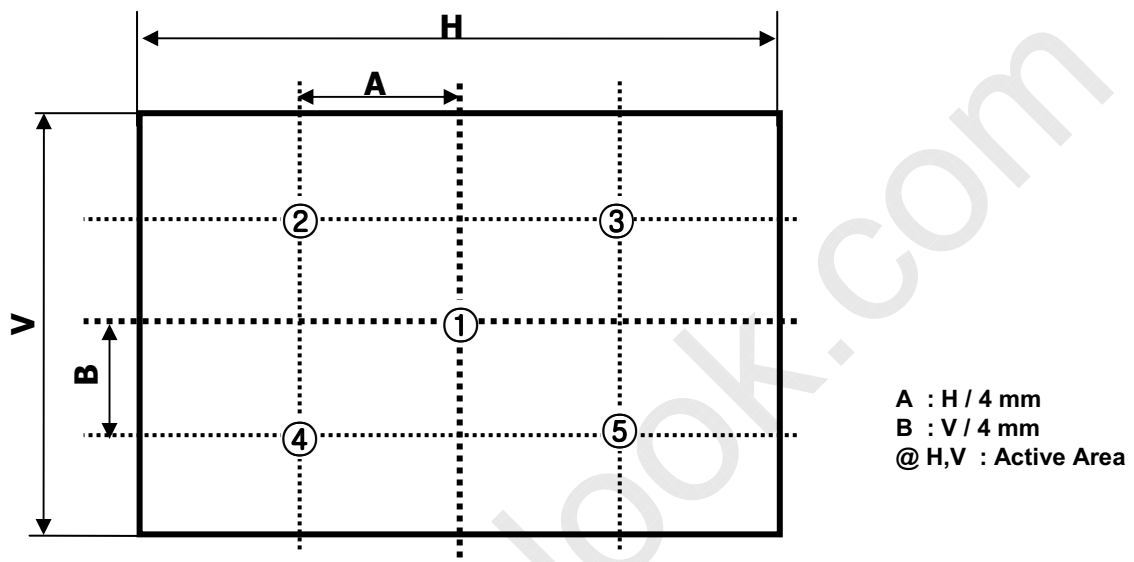

FIG. 10 5 Points for Luminance Measure
2. Surface luminance is determined after the unit has been 'ON' and 1Hour after lighting the backlight in a dark environment at  $25 \pm 2^\circ\text{C}$ . Surface luminance is the luminance value at center 1-point across the LCD surface 50cm from the surface with all pixels displaying white. For more information see the FIG. 10.
For more information, see the FIG. 10.